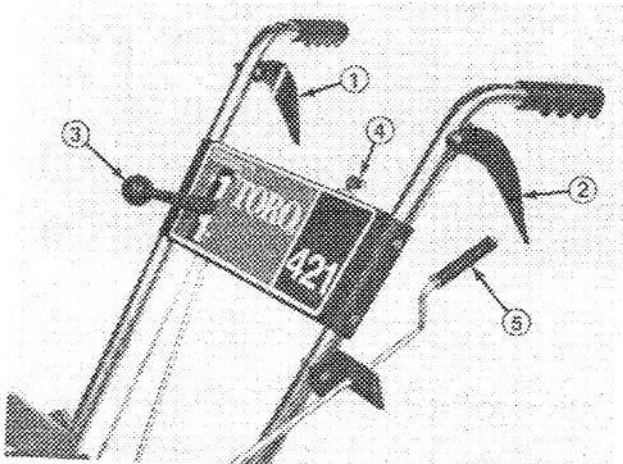

Figure 16
**Auger Drive Control** (Fig. 16) – Control has two positions: ENGAGE and DISENGAGE. To engage auger and impeller, compress lever against right handle grip. To disengage, release lever.
**Traction Control** (Fig. 16) – To achieve traction, lever must be compressed against left handle grip. To stop traction, release lever.
**Speed Selector** (Fig. 16) – The control has four positions: reverse, 1, 2 and 3. To change speeds, move gear shift to position desired. Lever will lock in notch at each speed selection. Use positions 1, 2, and 3 depending on snow conditions.
**Ignition Switch** (Fig. 16) – Switch has two positions: ON and OFF. Rotate key to ON before starting engine with the recoil starter. To stop engine, rotate key to OFF.
**Discharge Chute Control** (Fig. 16) — Rotate discharge chute control clockwise to move discharge chute to the left and counterclockwise to move chute to the right.
4. Rotate ignition key to ON (Fig. 16).
1. Release traction and auger drive control (Fig. 16).
2. Move throttle to slow and rotate ignition key to OFF (Fig. 16).